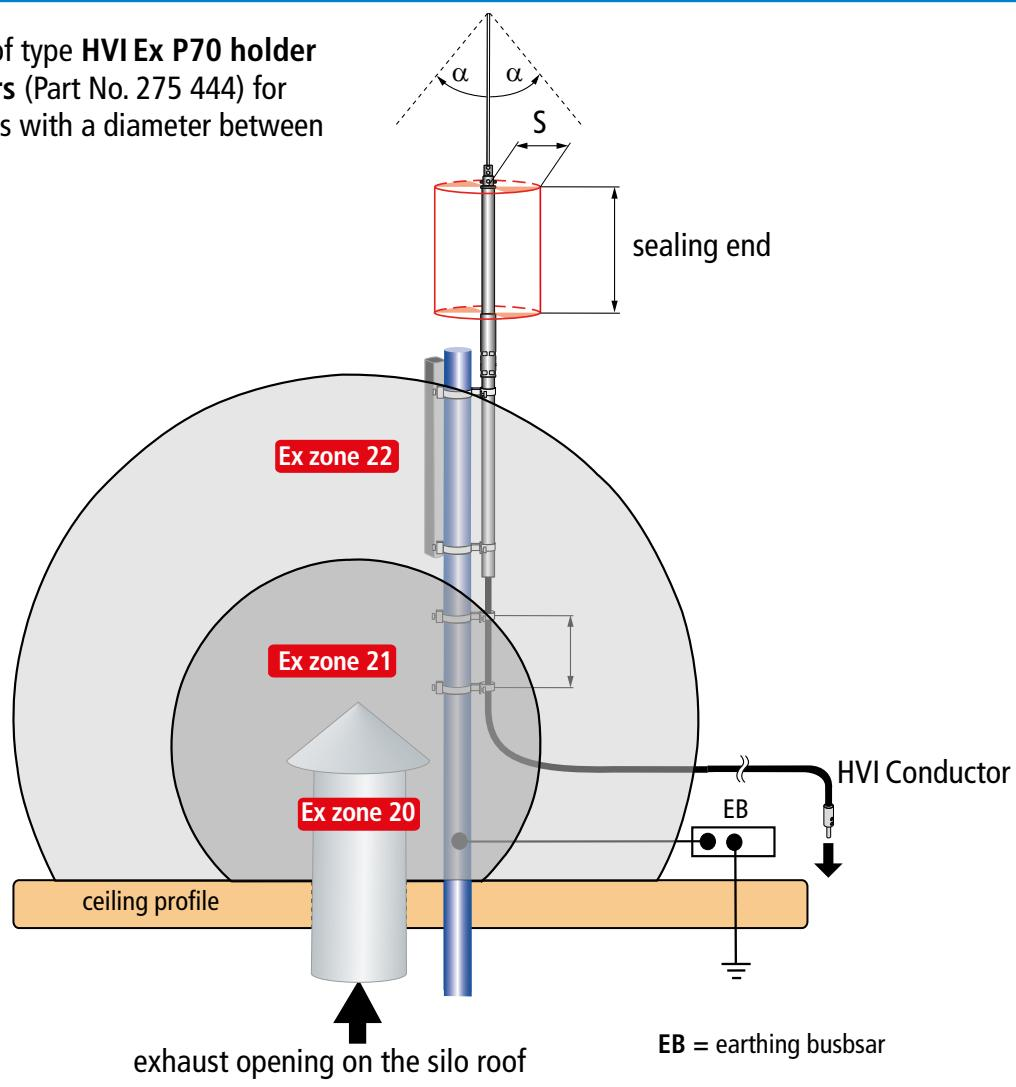
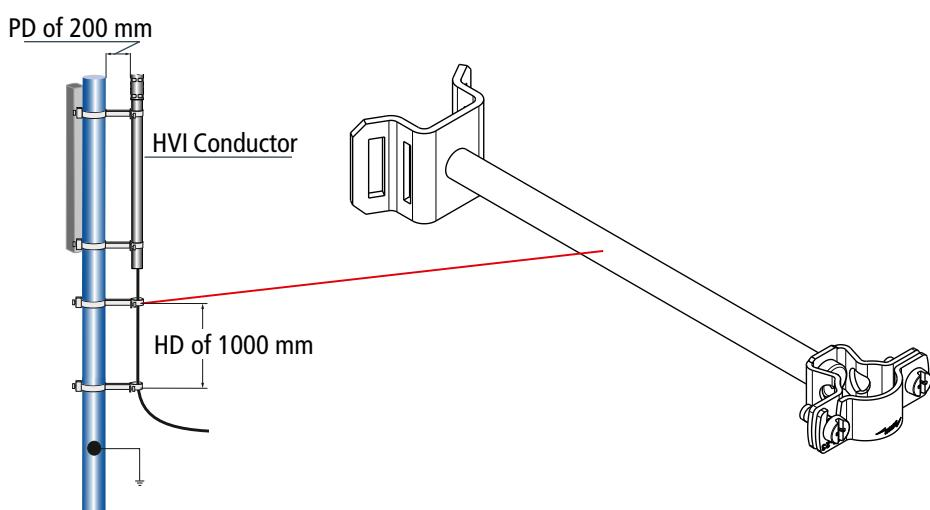
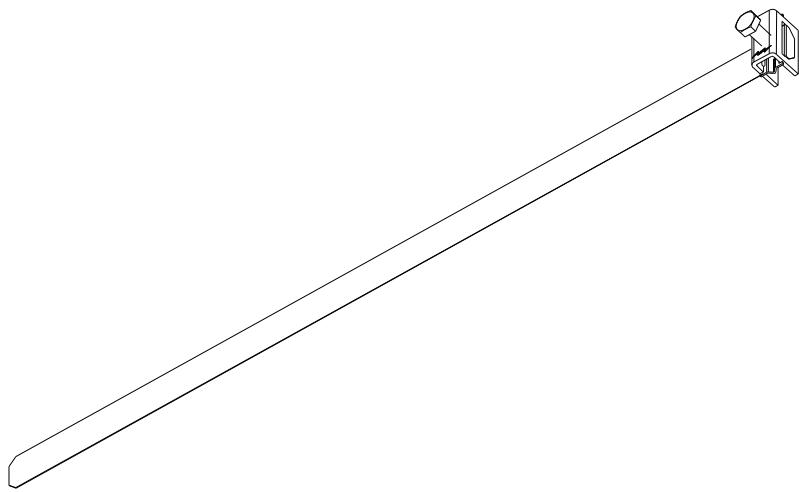

Figure 4 Installation in parallel to an earthed metal pipe: holder distance of 500 mm; pipe distance of 70 mm
Figure 6 Conductor holder of type **HVI Ex P200 holder** (Part No. 275 442)
Figure 7 Pipe clamp (Part No. 106 323)
Fig. 4 shows a typical application at a metal pipe, e.g. a mobile phone mast.
If metal conductor holders of type **HVI Ex P70 holder** with a pipe distance (PD) of 70 mm (Part No. 275 444) and a maximum installation distance ≤ 500 mm (see Fig. 4) are used, discharges can be reliably prevented. The conductor holders are fixed by means of a pipe clamp (Part No. 106 323; see Fig. 7, page 10).
If metal conductor holders of type **HVI Ex P200 holder** with a pipe distance (PD) of 200 mm (Part No. 275 442) and a maximum installation distance \leq 1000 mm (see Fig. 6) are used, discharges can be reliably prevented. The conductor holders are fixed by means of a pipe clamp (Part No. 106 323; see Fig. 7, page 10).